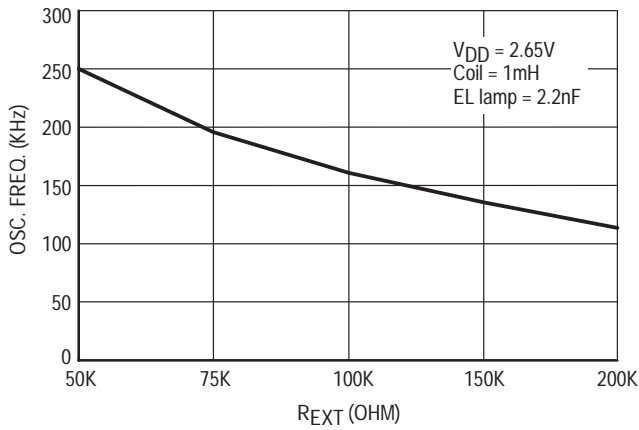

Figure 4. Oscillator Frequency vs. REXT
Since the fundamental frequency of the oscillator is set by the external resistor (R1), the temperature coefficient of the frequency is dominated by the value of this resistor. A low temperature coefficient (TC) resistor is suggested to use for keeping the variation of oscillator’s frequency low against the operation temperature range. (See Page 4, Fig. 3 & Fig. 4)